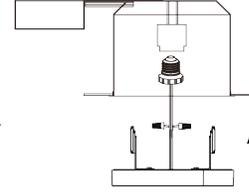

Fig. 10
4. Use wire connectors to connect wires (black to black, white to white). Insert fixture into recessed housing to install fixture. (Fig. 10)